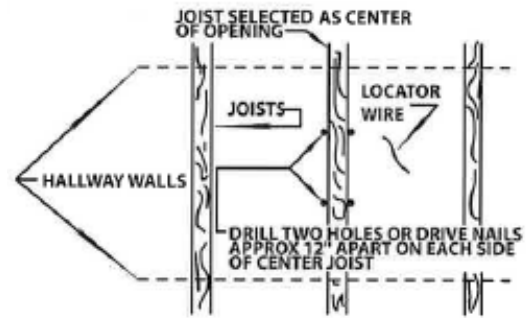

Figure 6
2. After locating the wire in the attic, review the area for obstructions etc. discussed earlier, and for direction of joist run in relation to the hallway (not critical if installed in a room). If the area is suitable, select a joist on which the fan and shutter will center. Remove insulation from the area and save for use around fan installation (See Fig. 6).
3. The location of this center joist must be accurately transferred to the ceiling below. This may be done by pushing two nails down through the ceiling about 12" apart along each side of the joist well within the area to be cut (See Fig. 6).